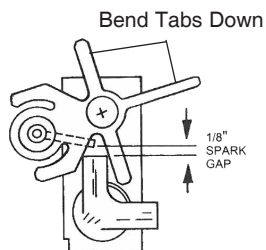

Figure 5
5. When selecting the ignitor/sensor tip location, remember the spark will jump the narrowest gap available to the nearest ground metal. Ensure that this gap is always at the point you select and not to the main burner, furnace chassis, burner manifold, or a part of the pilot hood where there is no flow, see Figure 5. The tip must be in the pilot flame for the ignitor/sensor to function properly.